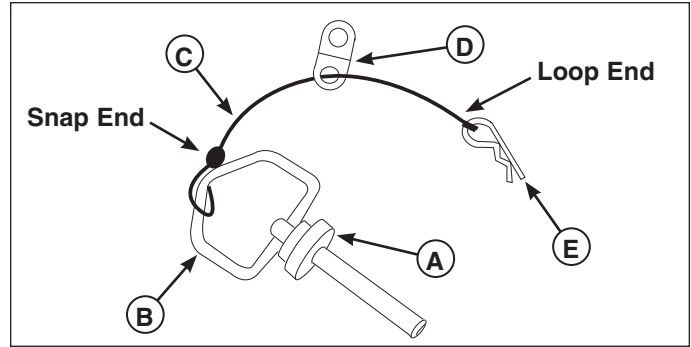

Figure 6. Assemble the Retainer Pins
2. Assemble the foam ring (A, Figure 6) onto the retainer pin (B).
3. Loop the snap end of the lanyard (C) through the retainer pin handle and snap together.
4. Install the lanyard anchor (D) onto the lanyard.
5. Install the clevis pin (E) onto the loop end of the lanyard as shown in Figure 6.